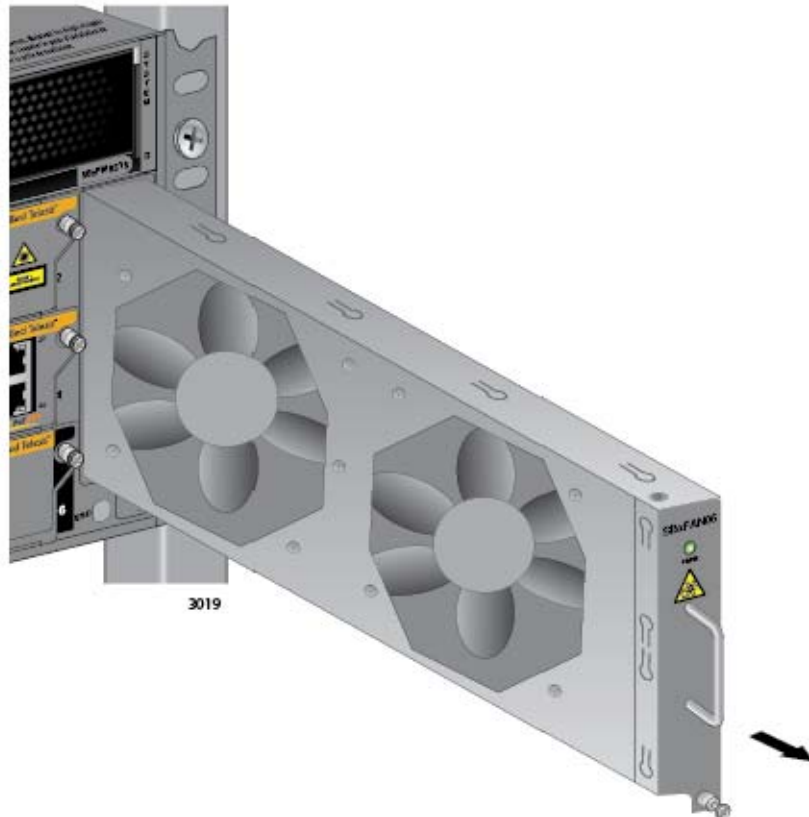

Figure 174. Removing the AT-SBxFAN06 Fan Module from the Chassis
6. After the fans have stopped, slide the module from the chassis. Refer to Figure 174 on page 268.